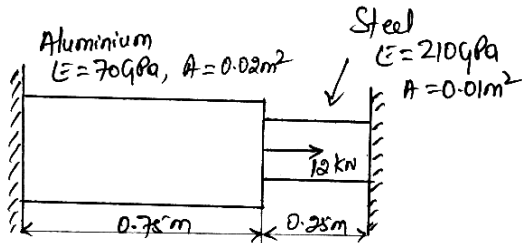

Fig. Q1c
- c. Determine the displacement strain and stress in the bar subjected to concentrated load as shown in Fig.Q1c. 8